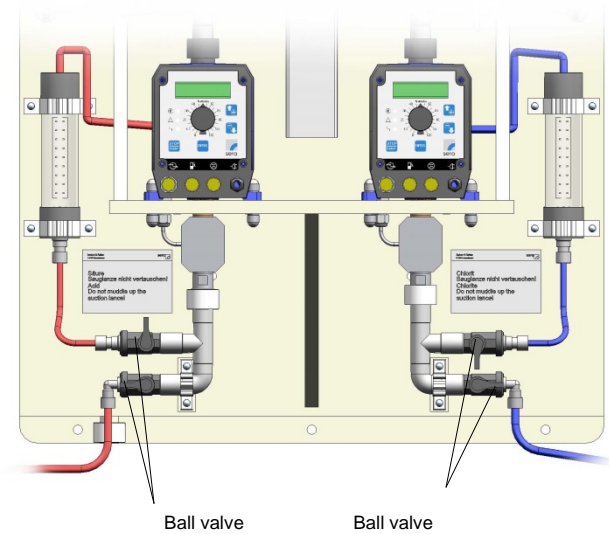

Fig. 11
3. Switch the ball valves in the pump suction pipe to 'Container suction' (see Fig. 11).
1. Switch the ball valves towards 'Container suction' (see Fig. 11).